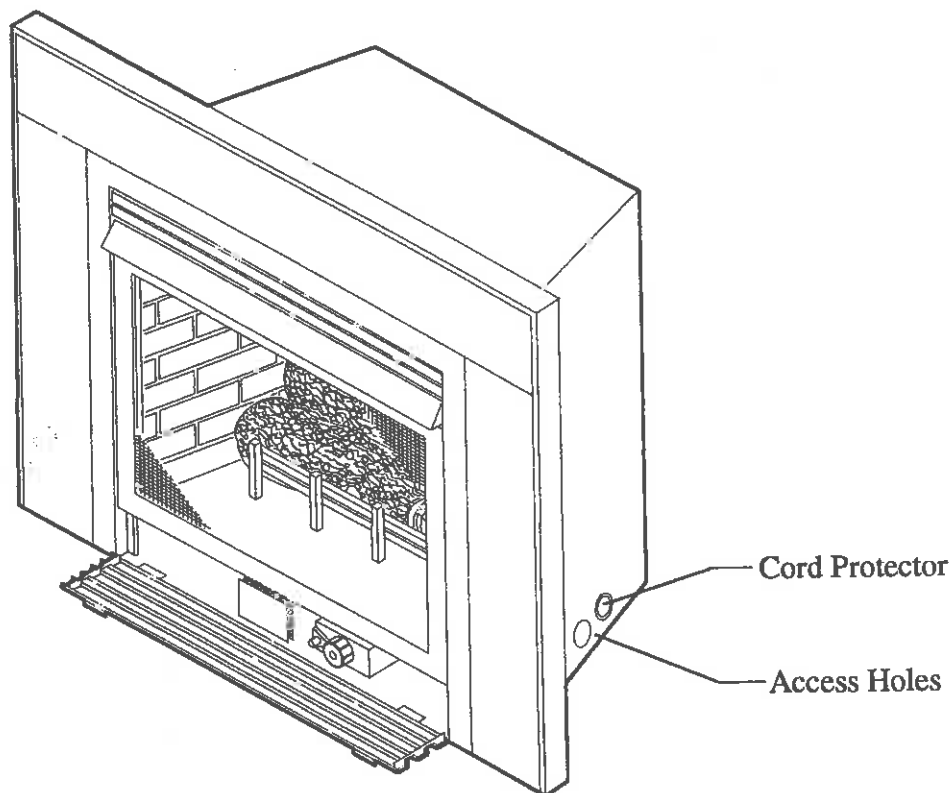

FIGURE 13. Access Holes
4. Refer to FIGURE 13 for location of piezo ignitor and control knob. Turn control knob clockwise  to OFF position.